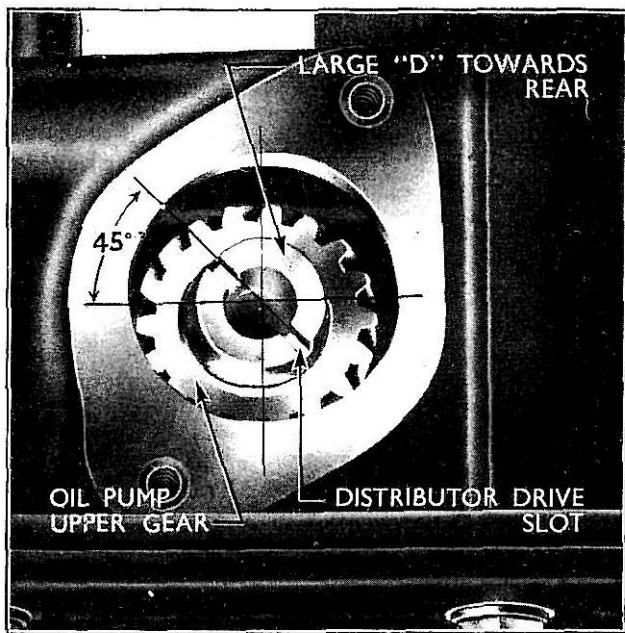

Fig. 57
- 1 With No. 1 piston at T.D.C. compression stroke enter the oil pump in its block location ensuring that the oil pump gear engages with the auxiliary drive shaft gear in such a manner that when the pump is fully home the large "D" formed by the offset distributor drive slot, points towards No. 2 cylinder and the slot assumes the position shown in Fig. 57. Replace the two bolts to secure the oil pump to the cylinder block.